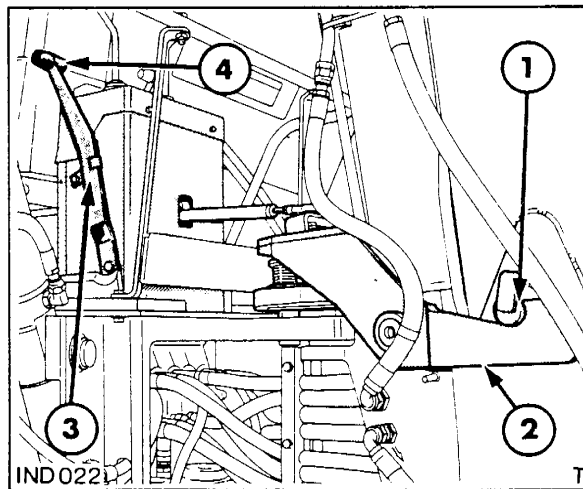

FIGURE 0-7
To engage the lock, raise and center the boom, move the lever (4) toward the operator until the boom latch (2) engages the boom latch pin (1), move lever into the lever latch (3), Figure 0-7.